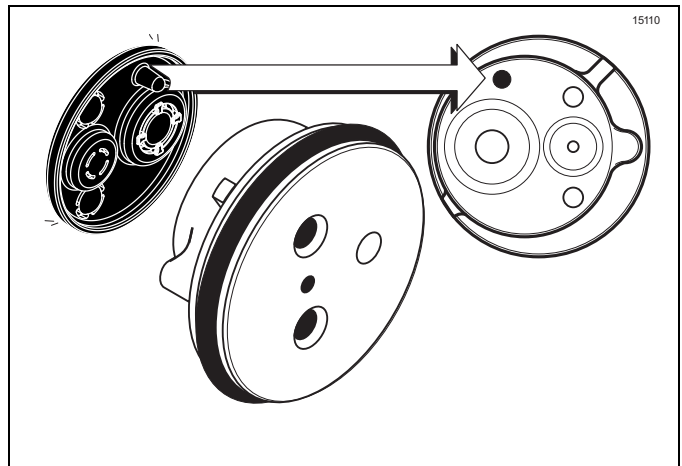

Figure 6-25
6. Slide the pump valve gasket into the holes on the cap. **Do not** lubricate the gasket. (See Figure 6-25.)